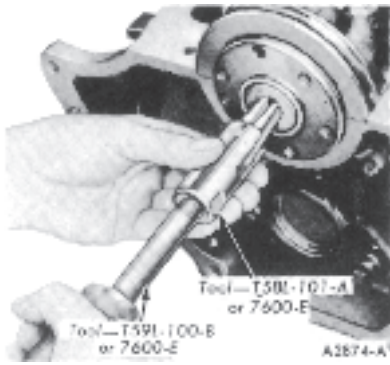

Fig. 29 Removing Clutch Pilot Bearing
2. Remove the pilot bearing and adapter as shown in Fig. 29.